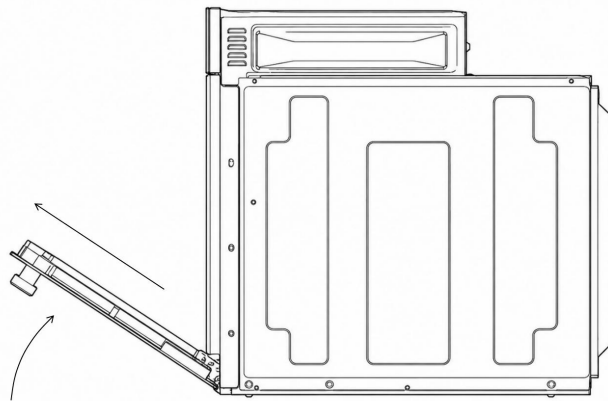

Figure 4
3. Pull the door towards you (Fig. 4), pulling it out of its seat